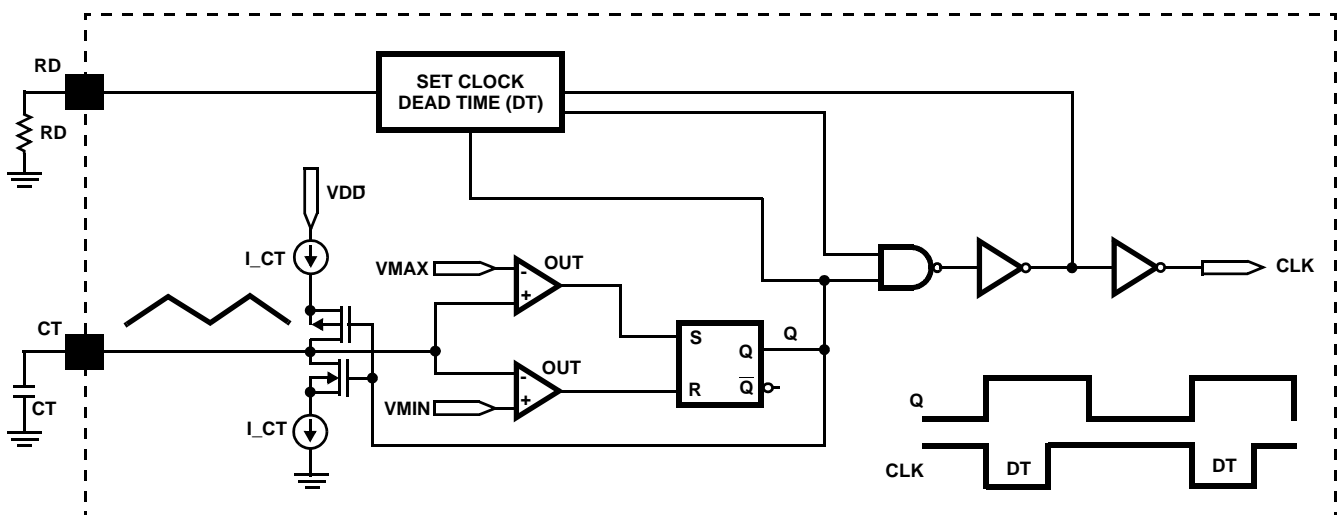
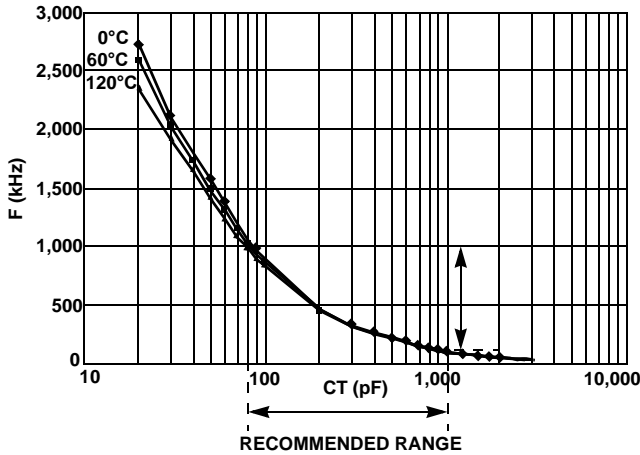

FIGURE 1. SIMPLIFIED CLOCK GENERATOR CIRCUIT
FIGURE 2. CT vs FREQUENCY
- This free-running oscillator is set by two external components as shown in Figure 1. A capacitor at CT is charged and discharged with two equal constant current sources and fed into a window comparator to set the clock frequency. A resistor at RD sets the clock dead time. RD and CT should be tied to the VSS pin on their other ends as close as possible. The corresponding CT for a particular frequency can be selected from Figure 2.